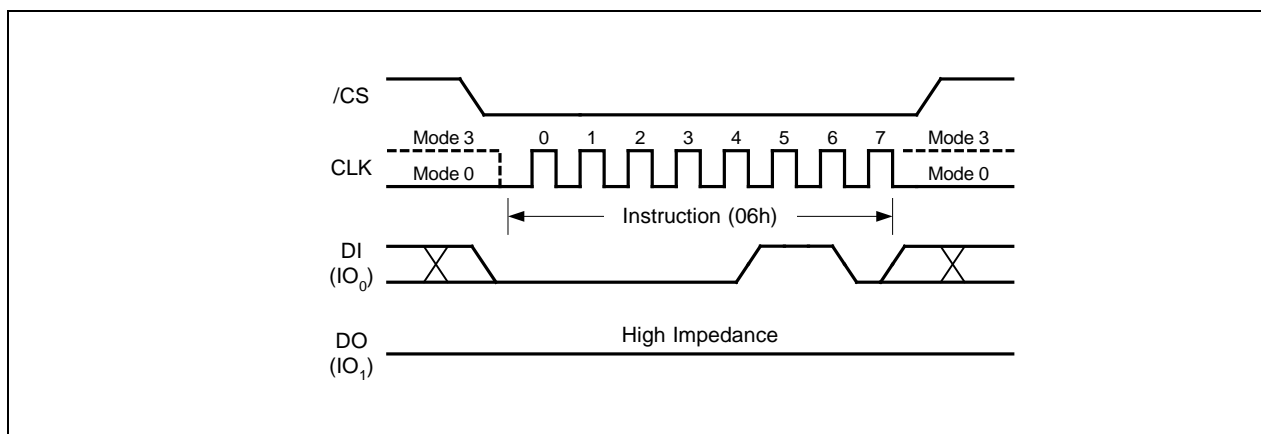

Figure 4. Write Enable Instruction for SPI Mode
Instructions vary in length from a single byte to several bytes and may be followed by address bytes, data bytes, dummy bytes (don't care), and in some cases, a combination. Instructions are completed with the rising edge of edge /CS. Clock relative timing diagrams for each instruction are included in Figures 4 through 40. All read instructions can be completed after any clocked bit. However, all instructions that Write, Program or Erase must complete on a byte boundary (/CS driven high after a full 8-bits have been clocked) otherwise the instruction will be ignored. This feature further protects the device from inadvertent writes. Additionally, while the memory is being programmed or erased, or when the Status Register is being written, all instructions except for Read Status Register will be ignored until the program or erase cycle has completed.
The Write Enable instruction (Figure 4) sets the Write Enable Latch (WEL) bit in the Status Register to a 1. The WEL bit must be set prior to every Page Program, Quad Page Program, Sector Erase, Block Erase, Chip Erase, Write Status Register and Erase/Program Security Registers instruction. The Write Enable instruction is entered by driving /CS low, shifting the instruction code “06h” into the Data Input (DI) pin on the rising edge of CLK, and then driving /CS high.